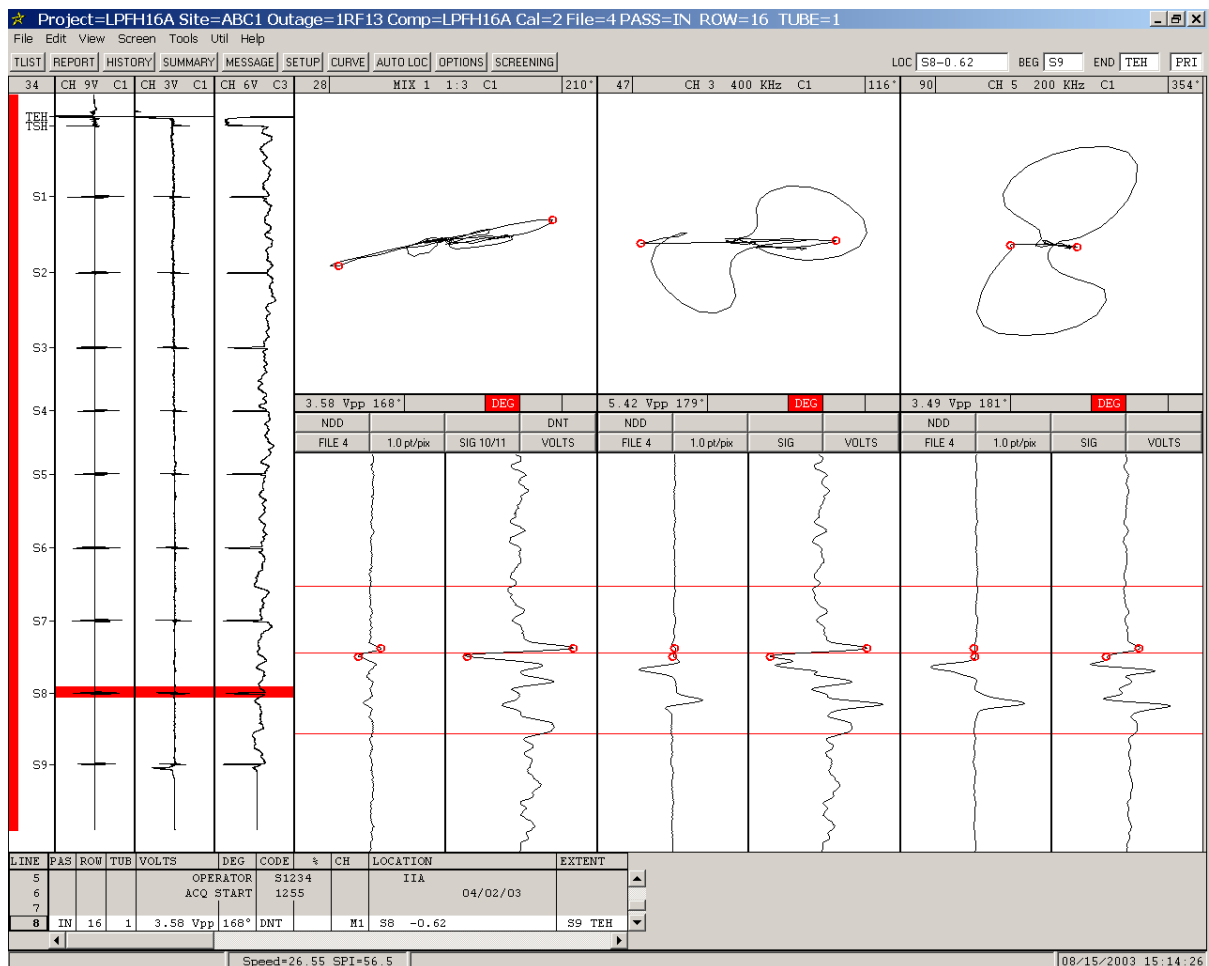

Figure 1-31. Analysis Screen - Making Calls Using Macro Buttons
STEP 9: Click the newly assigned **DNT** macro button in the **Mix 1** Lissajous. As shown in Figure 1-31, the *call* is made and added to the **Report** at the bottom of the screen.